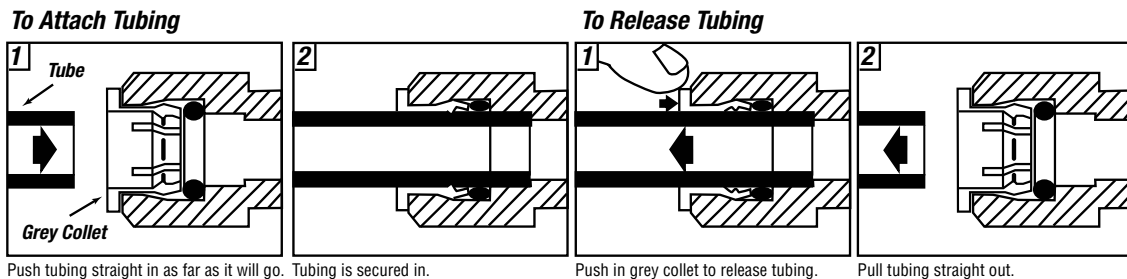

Fig. 6
- 6) Remove the cover from the appliance and disconnect the orange 1/4" tubing from the feedwater fitting. (See Fig. 6)
NOTE: If a leak occurs at a "Push In" plastic fitting, then refer to Fig. 6.